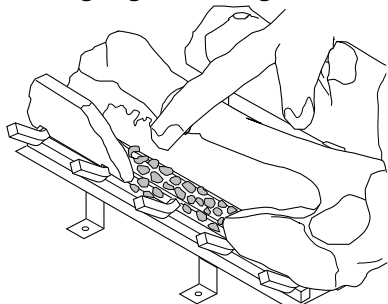

Figure 59 - Placing Ember Material on Burner
- Pull ember material apart into pieces no larger than a dime. Place these pieces loosely and sparingly directly onto the exposed section of the front burner and along the space between the burner and grate prongs (see Figure 59). This will create the glowing ember appearance as the flame touches the ember material. Do not block air slots by using too much ember material in one area. It is not necessary to use all of the ember material provided.